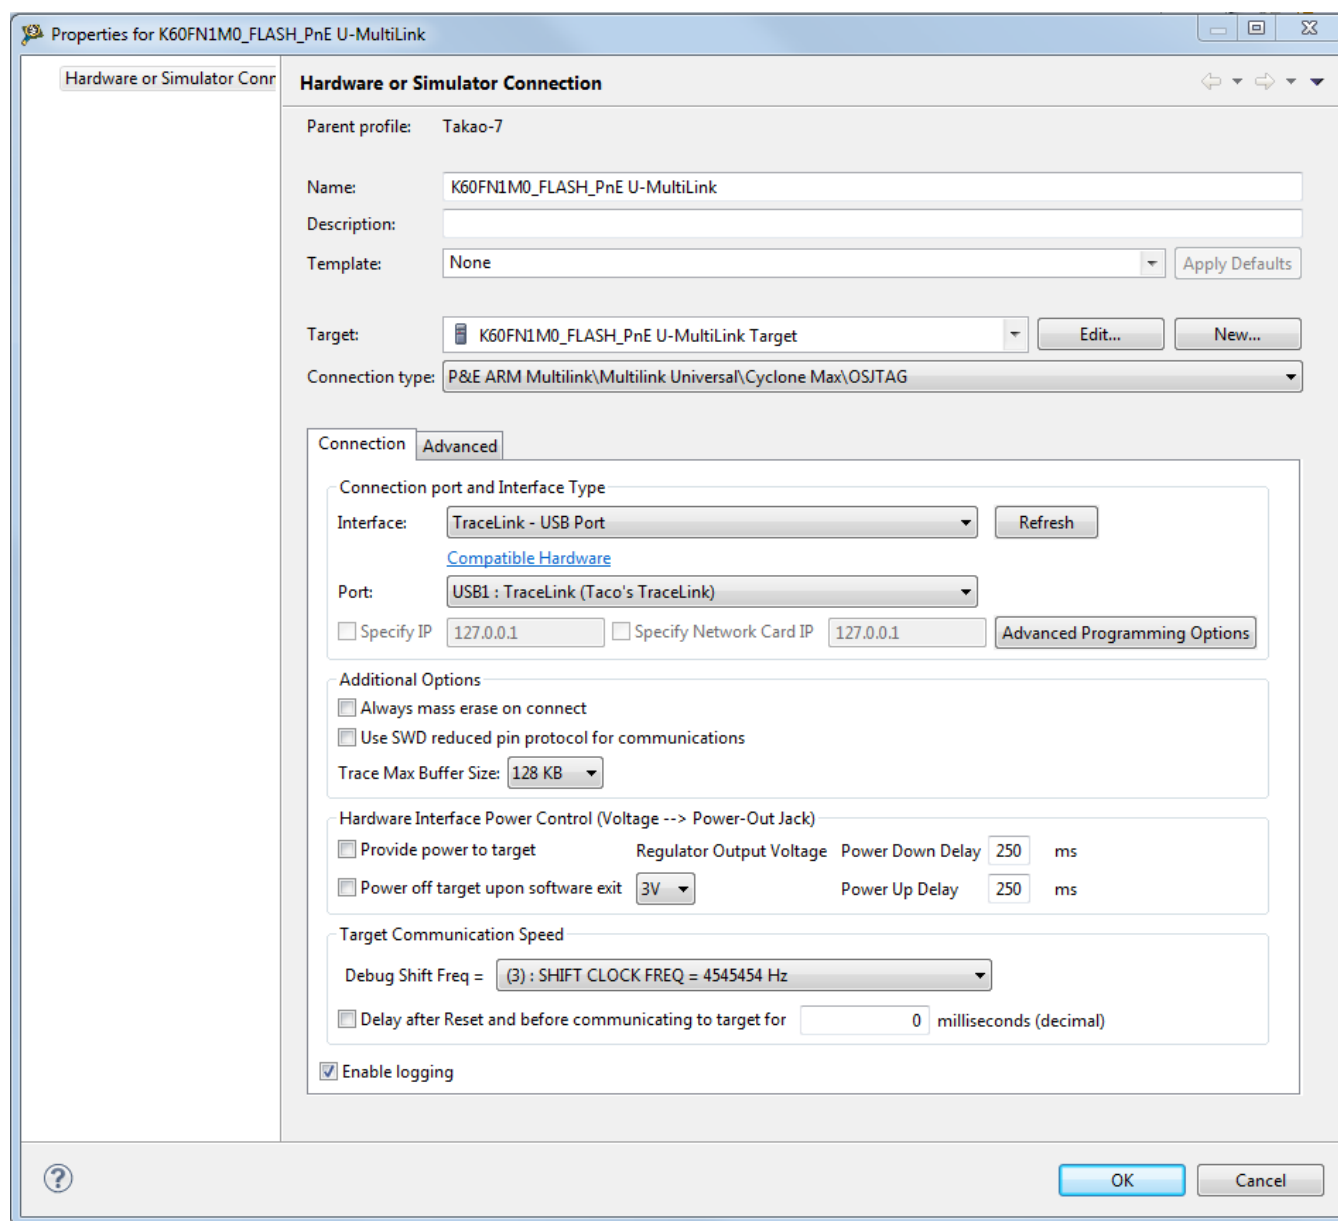

Figure 14-17. Debugger Settings
8. When the TraceLink is selected as the interface, the Additional Options will be available. Change the Trace Max Buffer Size as the user sees fit by using the drop-down box. Refer to Figure 14-17.